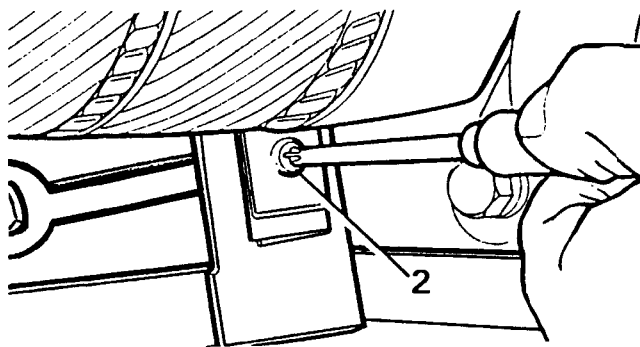

Figure 8
2. To remove seat squab first remove bottom fixings located on both sides of the squab, see figure 8.